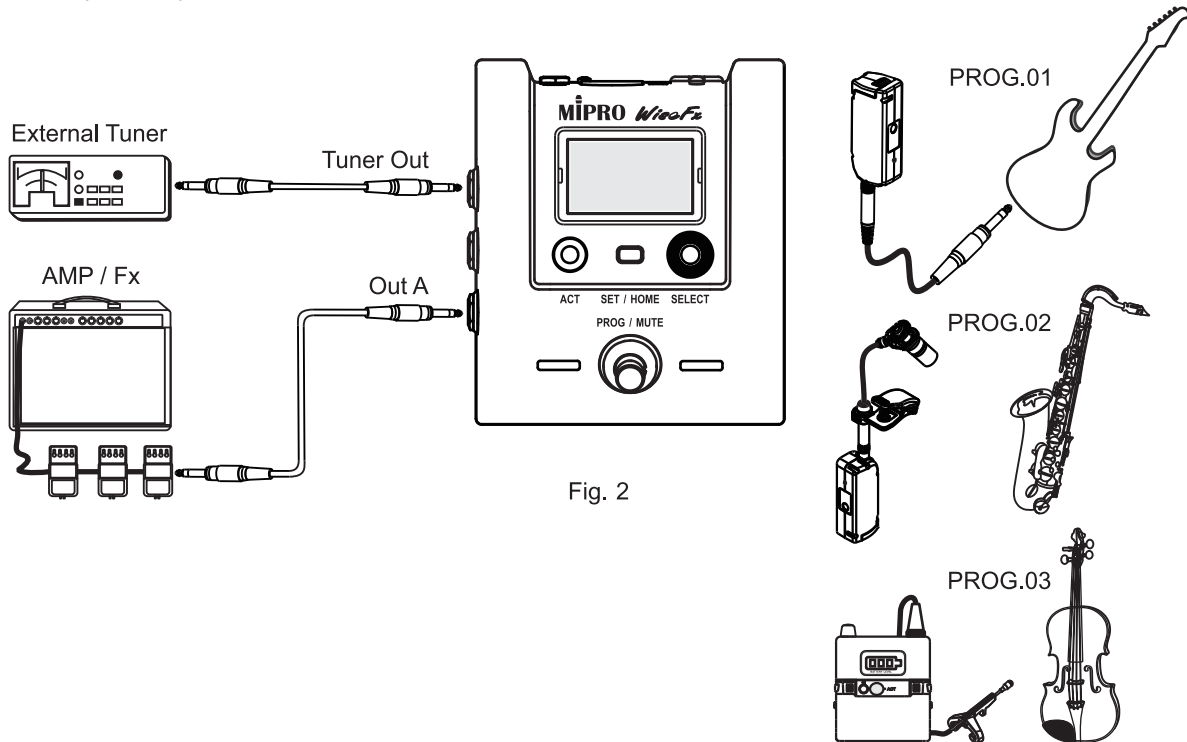

Fig. 2
- ❺ PROG | MUTE footswitch
- ❻ Channel sync ACT button
- ❼ Micro SD Card slot for user programming and firmware updates
- ❽ Pin 1 of the Out C ❾ XLR connector ground or lift setting switch
- ❿ Output C balanced XLR connector
(A) Outputs to amplifier hookup, Fig. 2: